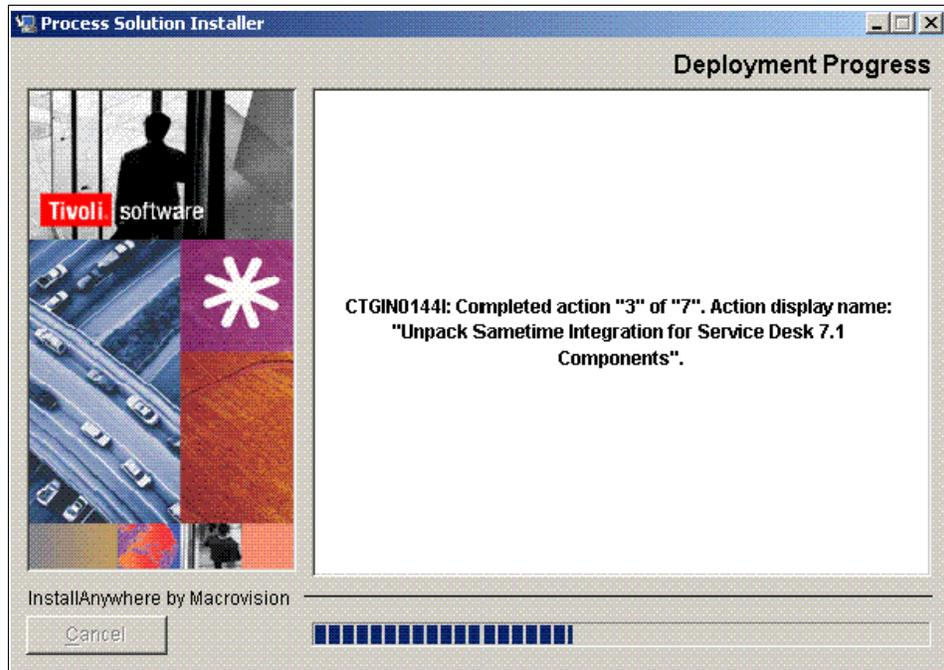

Figure 7-2 Installing Sametime integration
4. Installation starts as shown in Figure 7-2 on page 204.